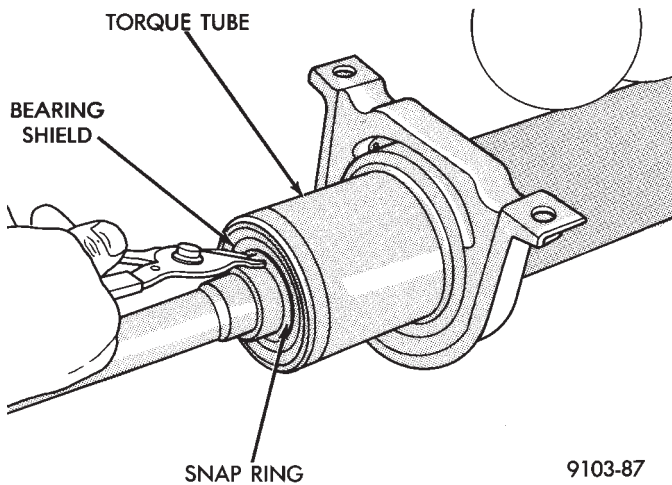

Fig. 1 Remove Torque Shaft Snap Ring and Bearing Shield
- (1) Remove rear drive line module assembly from vehicle.
- (2) Remove viscous coupling.
- (3) Remove snap ring and torque tube bearing shield (Fig. 1).